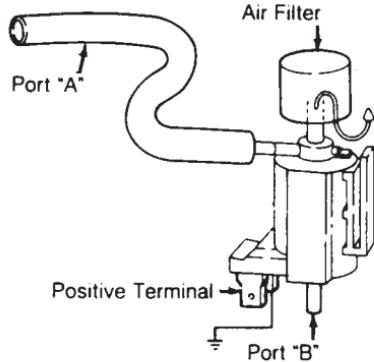

FIGURE 12: Typical Vacuum Solenoid
- Disconnect vacuum and electrical connectors from the solenoid. Connect the pump to port "B" and attempt to apply vacuum with pump. Vacuum should be released through port "A" (FIGURE 12).